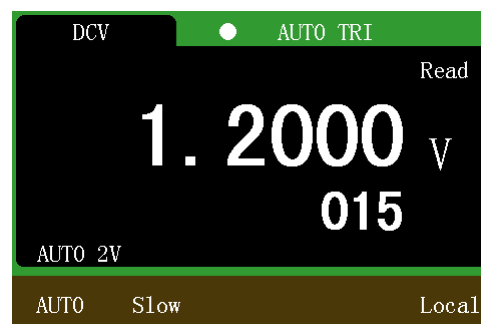

Figure 5-17 Data readback function
2. Press  to view the saved data, as shown in Figure 5-17. Press  again to exit the data readback function.